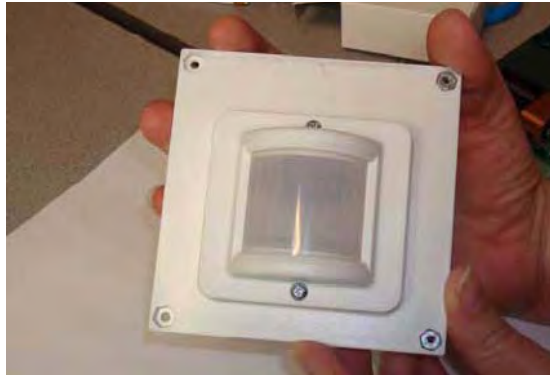

Figure 10. Assembled Flat 0.9" Lens Holder and Flat Lens
2. Place the cap over the base, ensuring that the top of the lens is toward the arrow on the base. Use the provided ½" machine screws (2) with a nut to secure the cap in place; see the example in Figure 10.
3. Place the lens and lens holder assembly onto the ZMOTION 20-Pin Development Board with the arrow on the lens holder aligned with the primary placement arrow on the circuit board, as shown in Figure 10. The four screw holes in the circuit board should line up with the four upper mounting holes in the lens holder.